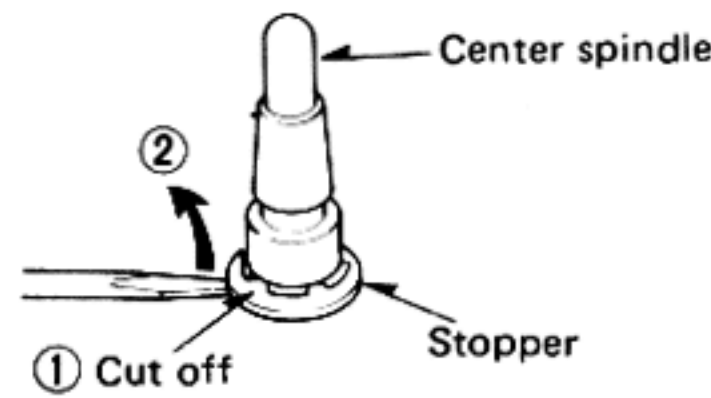

Fig. 7
3. Cut off the stopper by nippers and remove the stopper as shown in Fig. 7.